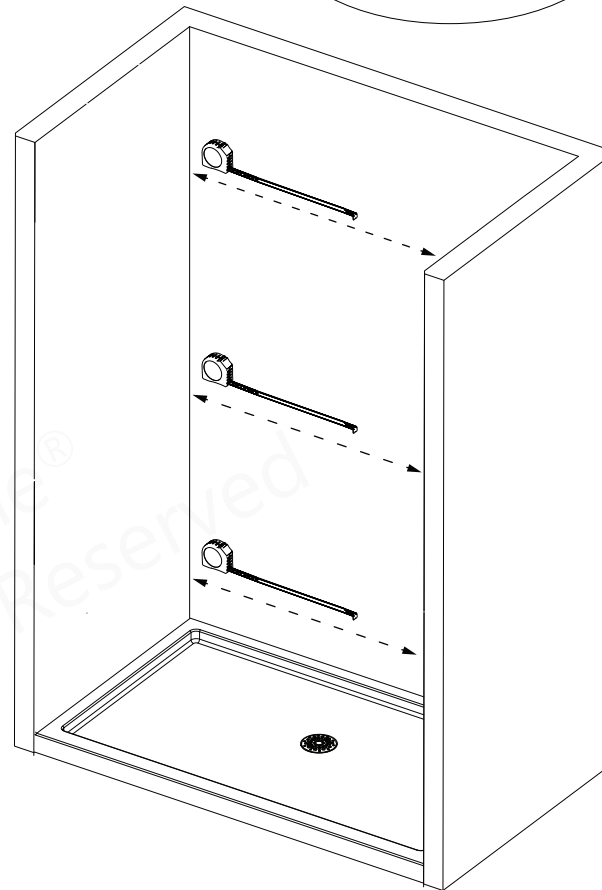

Fig 3
3. Measure the width of the rear wall in the shower or tub opening, from corner to corner, at the top, middle and bottom. Record these measurements as W1, W2 and W3. **Fig 3**